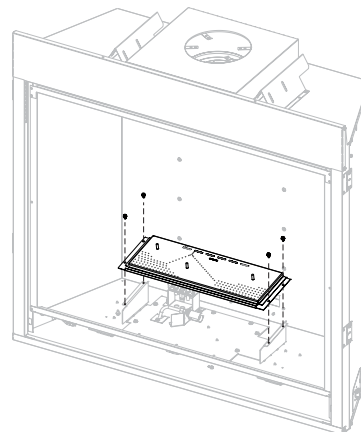

Figure 9
6. Remove the four screws securing burner and slide to right then lift burner off. **See Figure 9.**
13. Reinstall the burner and four screws removed in step 6. **See Figure 9.**